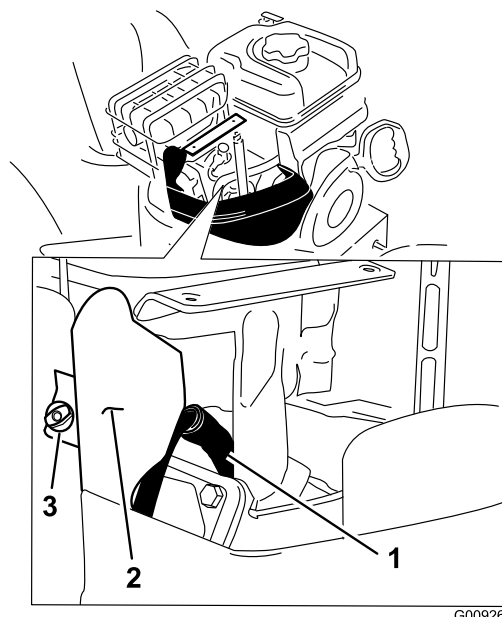

Figure 47
4. Remove the bracket thumb screw and the bracket (Figure 47).
5. Clean around the base of the spark plug (Figure 47).